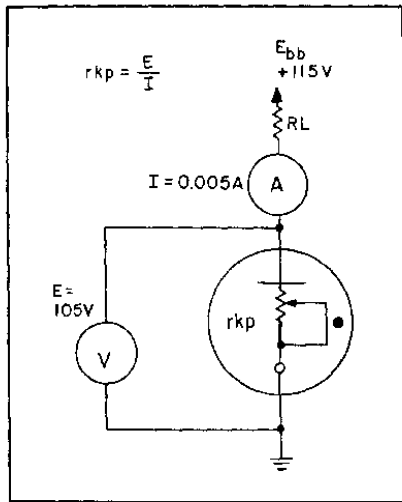

Figure 2A. —Cold-cathode tube operation.
- 2-30. If the source voltage in figure 2A is increased to 150 volts and the ammeter reads 20 milliamperes, what is the resistance ( $r_{kp}$ ) of the tube?